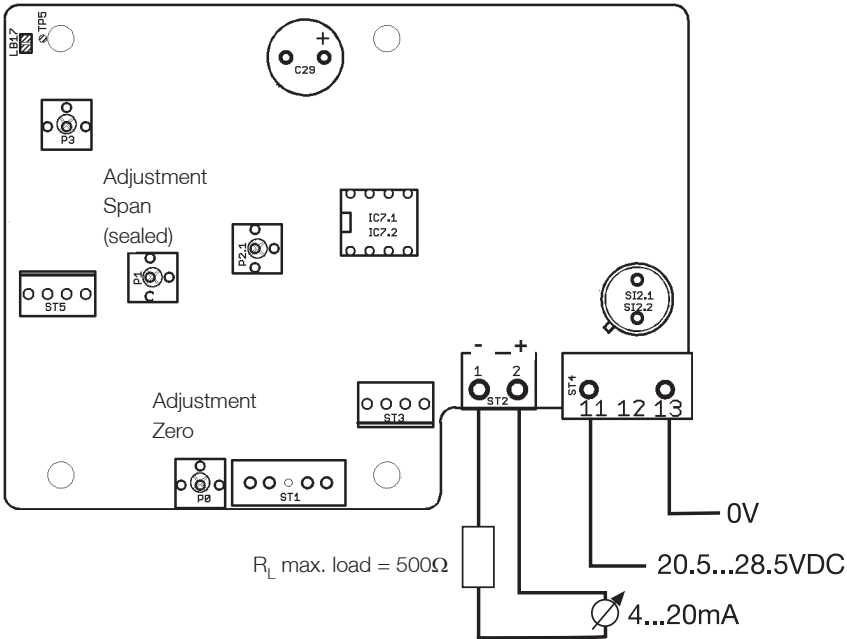

Fig. 1: Electrical connections
Please connect the power and signal lines in accordance with Fig. 1.
Once the starting time for the pressure transmitter has elapsed, the zero point can be calibrated with the help of the potentiometer P0 (see Fig. 1).
1. Power to the transmitters (20.5 to 28.5V) is via the terminals 11 / 13, see Chapter 4.2, fig. 1.
Please note that the potentiometer P1 (range adjustment, see fig. 1) can only be activated by testo. The seal should never be broken otherwise the warranty will no longer apply.